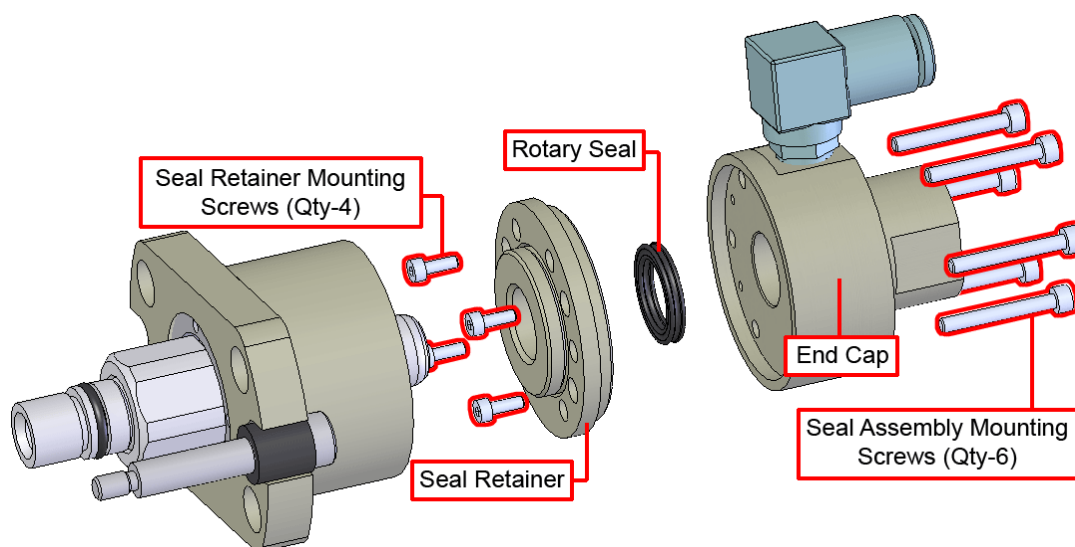

Figure 4-6: Seal Installation
4. Carefully pull the seal assembly off of the stage. Figure 4-6 shows an exploded view of the seal assembly.